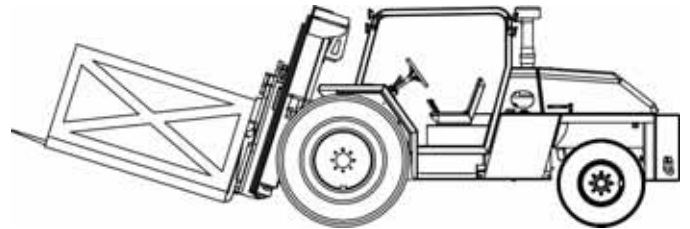

Fig 3
3. Check traffic and drive or back away slowly; watch your direction of travel and the stability of the load. Travel with caution at all times. *Fig 3.*